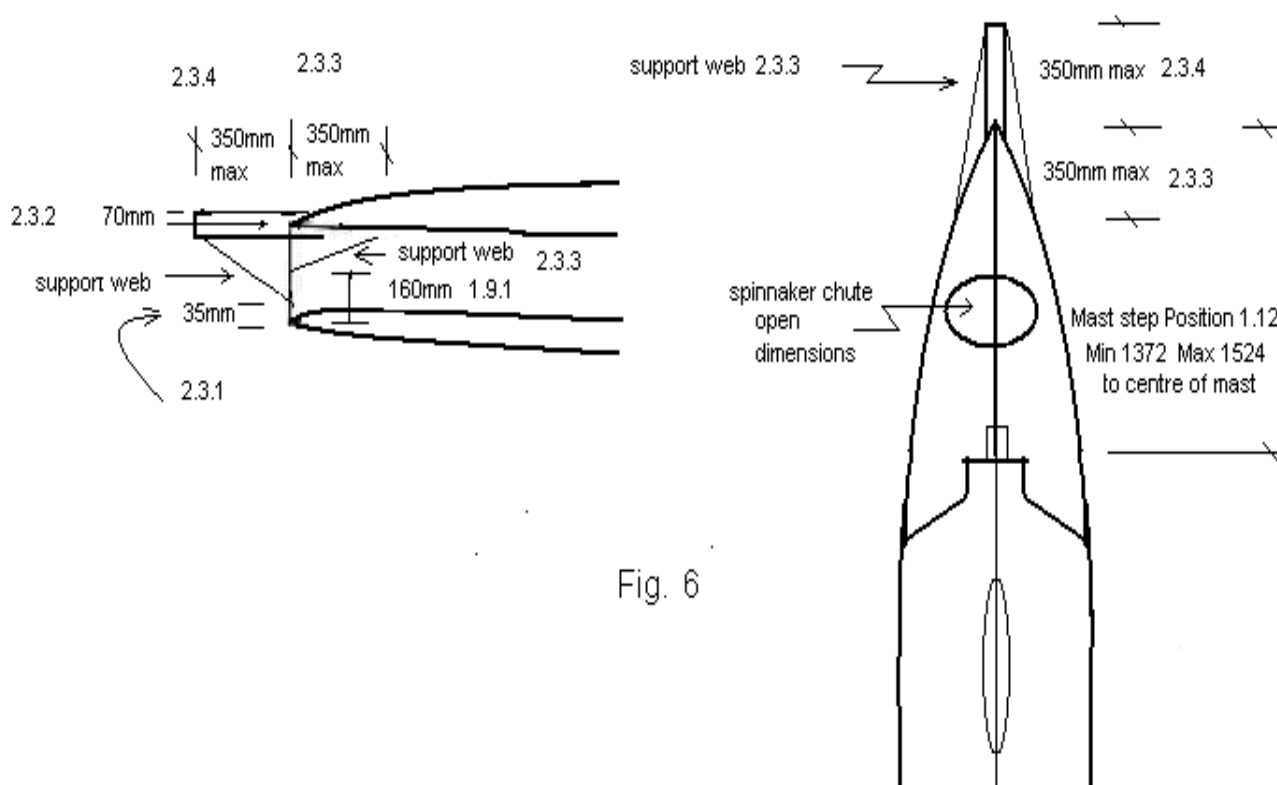

Fig. 6
**2.3 Hull additions** for asymmetric spinnaker pole supports shall meet the following requirements for both retractable and fixed poles (Fig 6)